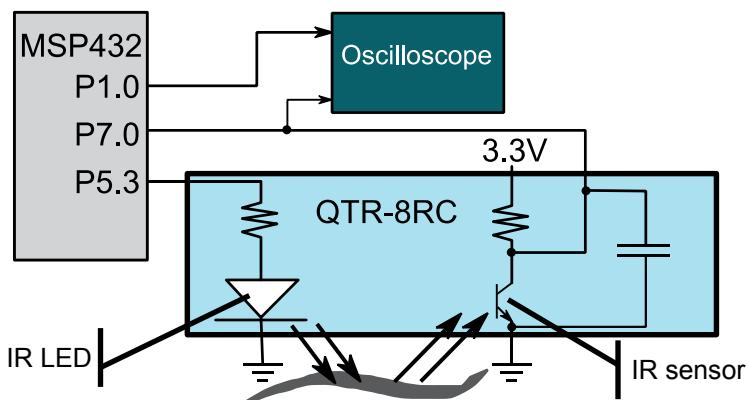
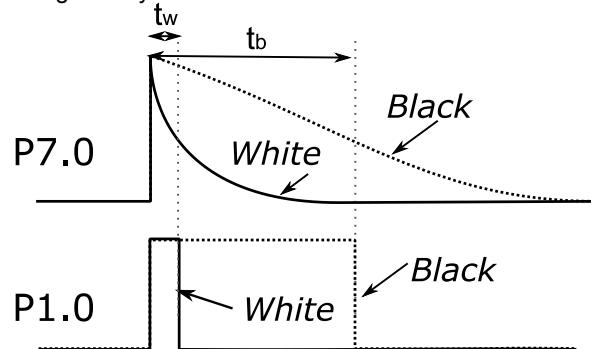

Figure 7. Hardware configuration for one sensor.
Figure 8. Conversion of light to voltage, and voltage to binary
We will use **Port 5, bit 3 as an output**, connected to IR pin of the line sensor. P5.3 turns on the infrared (IR) LED, P7.0 is connected to one of the sensor pins of the QTR-8RC, and **P1.0 is set as a digital output (used in this section for testing)**. See Figure 7. In particular, the goal of this section is to observe how the reflectance of the given surface affects the voltage on P7.0, and how the microcontroller converts the voltage on P7.0 into binary data depending on the color of the reflective surface.
**Note:** Basically, what is happening is the 10 $\mu$ s output pulse on P7.0 charges a capacitor on the QTR-8RC board (see Figure 7). Once the microcontroller sets the pin to input, the reflected light on the light-sensitive transistor discharges the capacitor. The white reflective surface has more light on the base of the transistor, and conducts more current through the collector-emitter. This current discharges the capacitor. Notice the white surface discharges faster and P7.0 falls more quickly. Using the rise of P7.0 as a time reference of 0, measure the time P1.0 falls for the white and black surfaces, see Figure 8. For a white surface, measure the time  $t_w$ . For a black surface, measure the time  $t_b$ .